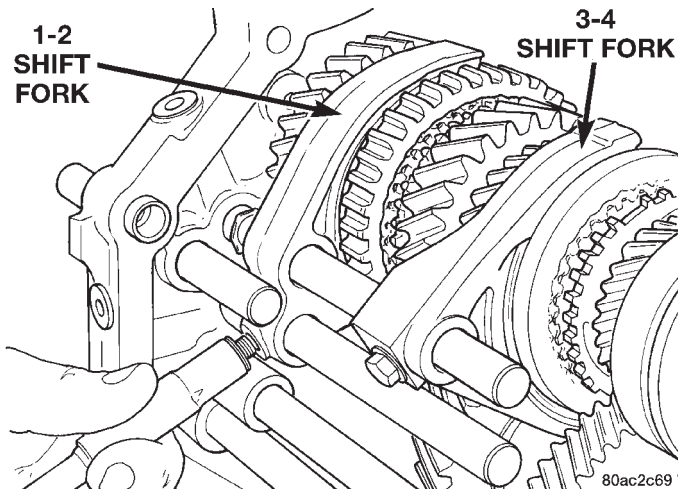

Fig. 87 Install Shift Fork Bolts
(24) Using a suitable rubber mallet, tap on the input shaft and the front of the countershaft equally to install the mainshaft rear bearing into the intermediate plate and the rear of the countershaft into the rear countershaft bearing. It may be necessary to occasionally hold the countershaft into the intermediate plate and tap the countershaft rear bearing onto the countershaft and into the intermediate plate.
(25) Install snap-rings onto the rear mainshaft and countershaft bearings.
(26) Install the bolts to hold the reverse shift arm bracket to the intermediate plate.
(27) Install new bolts to hold the shift forks to the shift rails (Fig. 87).